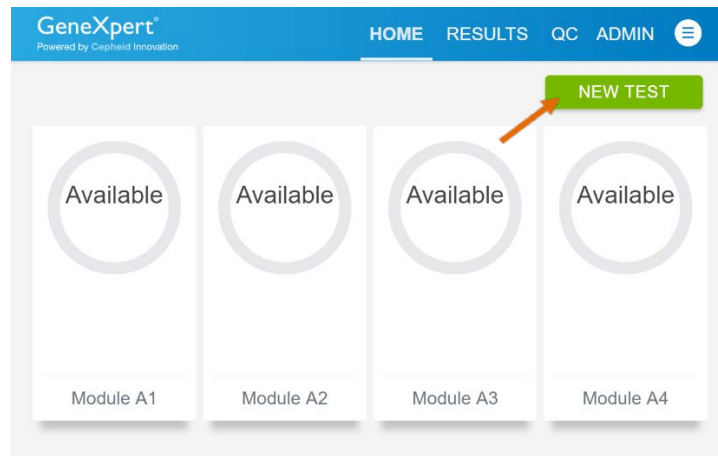

Figure 14. Home Screen
2. Touch the **NEW TEST** button on the Home screen (see Figure 14).